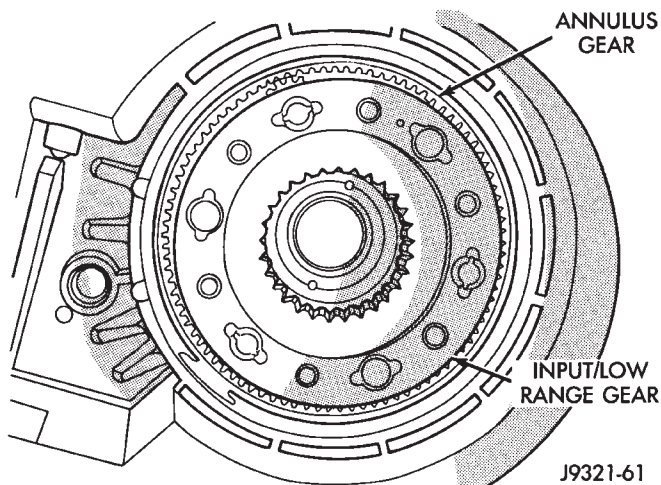

Fig. 64 Input/Low Range Gear Installation
(1) Align and install low range/input gear assembly in front case (Fig. 64). Be sure low range gear pinions are engaged in annulus gear and that input gear shaft is fully seated in front bearing.